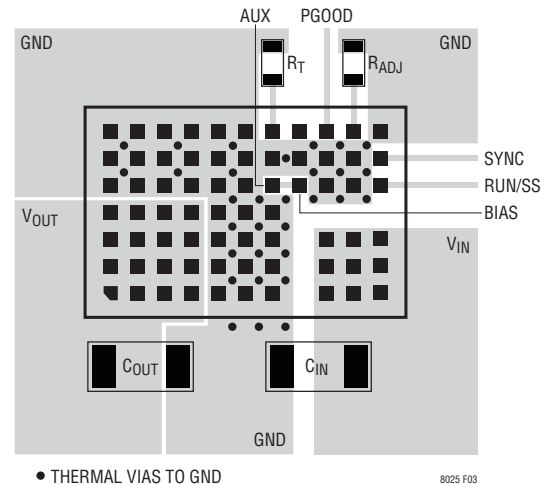

Figure 3. Layout Showing Suggested External Components, GND Plane and Thermal Vias.
high level of integration, you may fail to achieve specified operation with a haphazard or poor layout. See Figure 3 for a suggested layout. Ensure that the grounding and heatsinking are acceptable.
6. For good heatsinking, use vias to connect the GND copper area to the board's internal ground planes. Liberally distribute these GND vias to provide both a good ground connection and thermal path to the internal planes of the printed circuit board. Pay attention to the location and density of the thermal vias in Figure 3. The LTM8025 can benefit from the heat-sinking afforded by vias that connect to internal GND planes at these locations, due to their proximity to internal power handling components. The optimum number of thermal vias depends upon the printed circuit board design. For example, a board